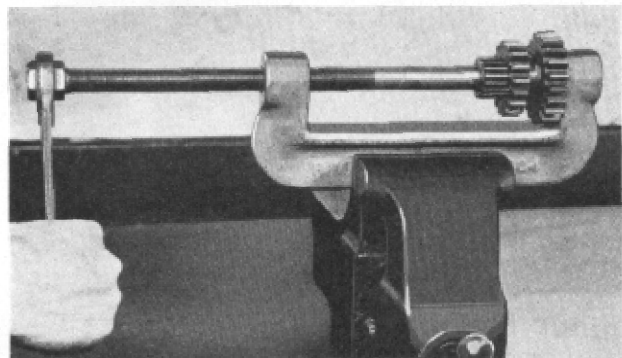

Figure 11
When replacing bushings (64) in the reverse gear rotating shaft assembly, the old bushings should be removed and the new ones installed either with an arbor press or the J-488 hand bushing press shown in Figs. 11 and 14. The necessary adapters are fur-